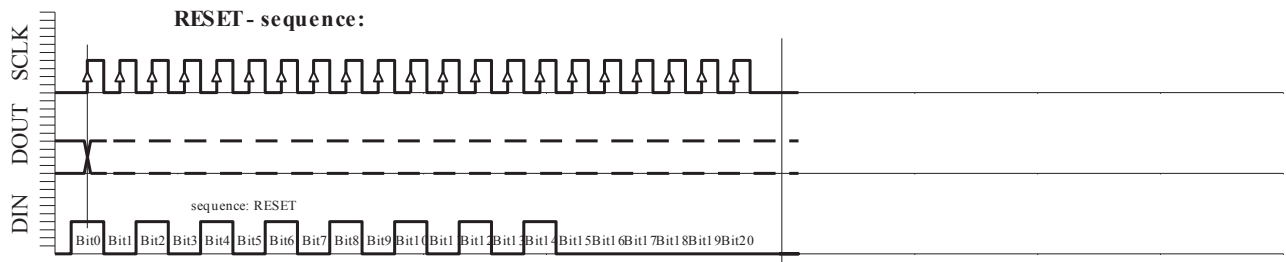

Fig. 6e: RESET sequence (21 bit)
- ◆ RESET sequence (Figure 6e)
The RESET sequence is special as the module in any state recognizes its unique pattern. By consequence, it can be used to restart if synchronization between the microcontroller and the MS5541C has been lost. This sequence is 21-bit long. The DOUT signal might change during that sequence (see Fig. 6e). It is recommended to send the RESET sequence before each CONVERSION sequence to avoid hanging up the protocol permanently in case of electrical interference.